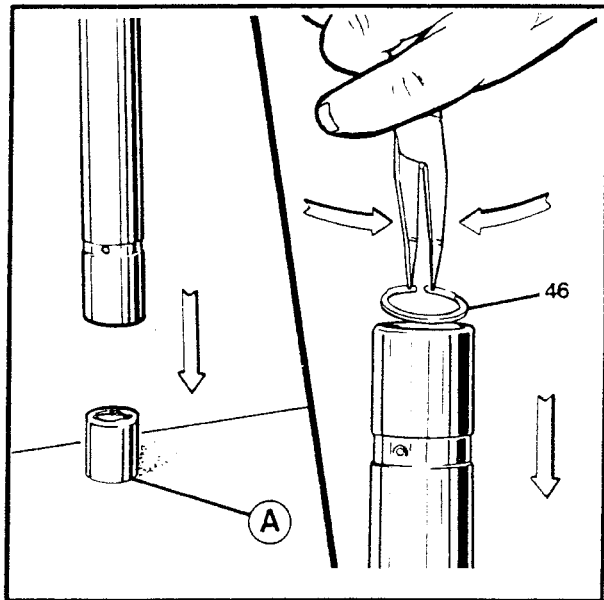

Figure 5-24. Valve Unit Assembly
3. See Figure 5-24. Hold the valve unit in with a finger. Turn the tube upside down on a flat surface and push the valve unit (A) against the counterbore. Install the circlip (46).